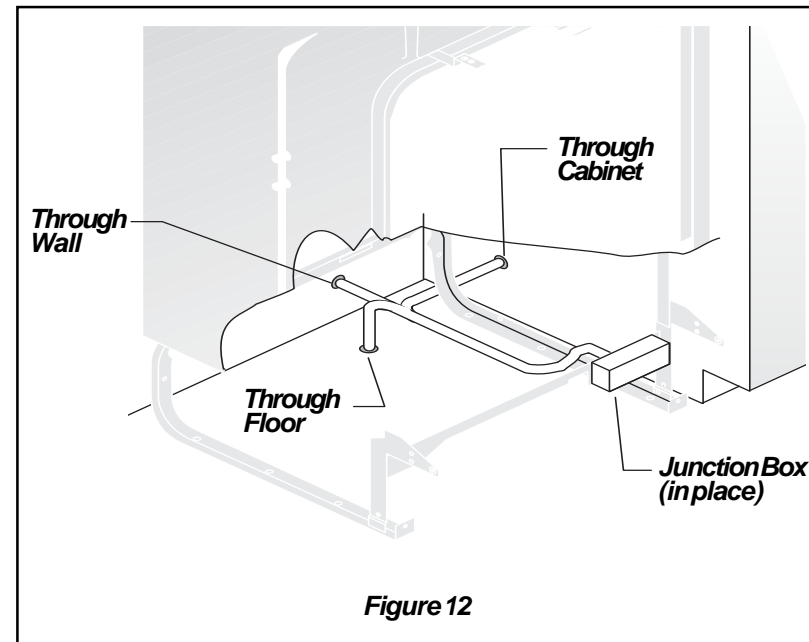

Figure 12
- Remove junction box cover and pull house wiring into junction box. See **Figures 12 and 13**.